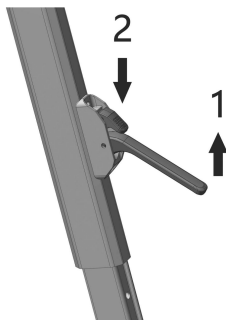

Figure D7
a. Lift the arm latch and press down the lock head then slide out of the support arm to the appropriate height (Figure D7), and release the lock head to lock the support arm.